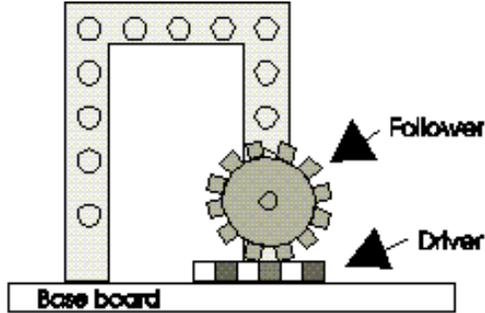

Figure 1
4. Put these two gears on the baseboard with the marked teeth touching. See Figure 1.
1. Try using a crown gear. Look at the set up shown in Figure 1 with two small gears at right angles to each other.